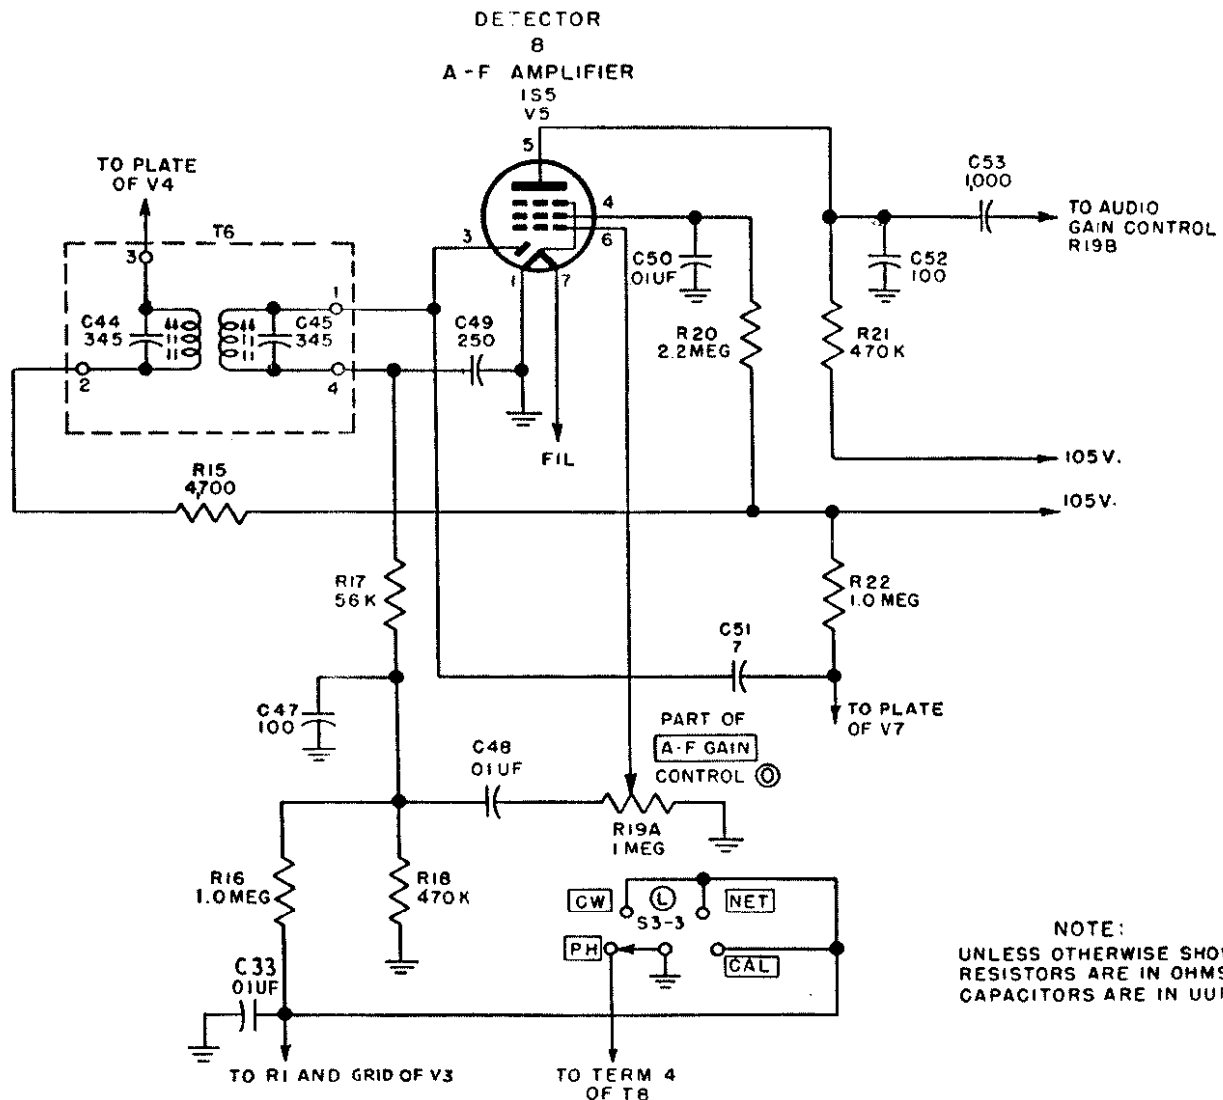

Figure 61. Detector and first audio amplifier, simplified schematic.
84. Detector and First Audio Amplifier (fig. 61)